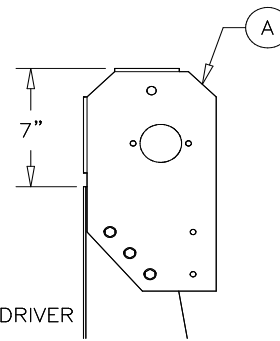

Figure 2
Procedure: Position the driver and passenger rolltube brackets (A) along the front sides of the gravel box. The brackets should be mounted at a distance of 7" higher than the top of the box (see Figure 2).